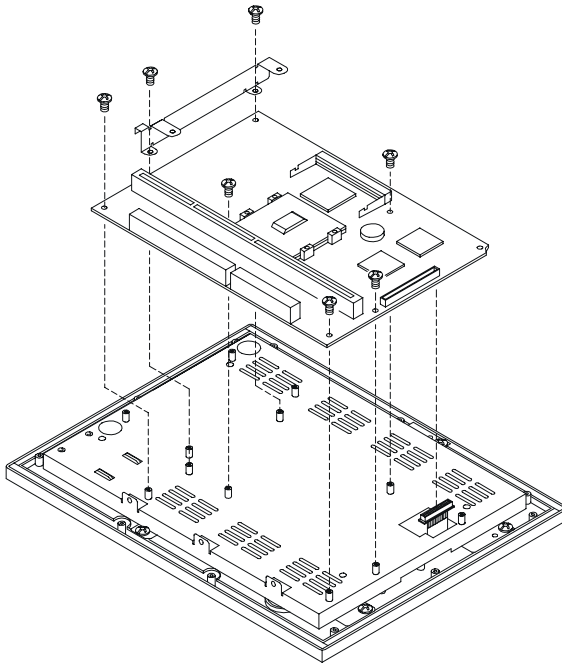

Figure 2-12: Installing/removing the PCM-9573 in the PPC-103
3. Install the PCM-9573 in the panel and screw in the four screws (see Figure 2-12).